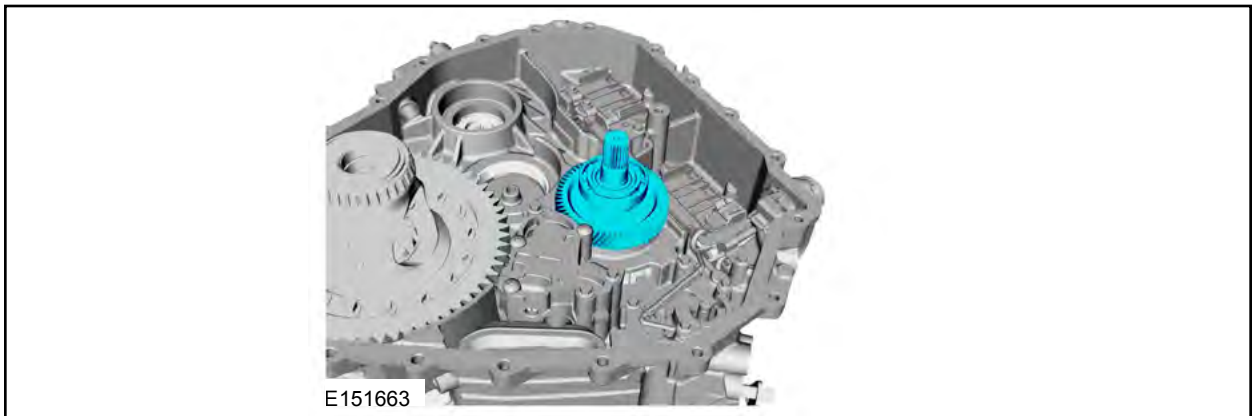

FIGURE 38
33. Install the final drive input gear assembly. See Figure 38.